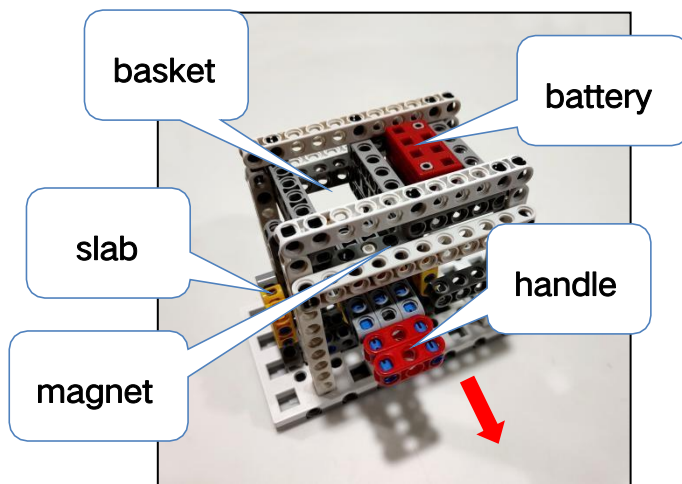

Figure 3-3-1 Initial Position
3.3.1 The high-density battery model at its initial position can be placed at either location 2 or 10 on the arena map. The red arrow shown below in figure 3-3-1 is pointing toward the same direction as the red arrows on the arena map shown in section 2.1. The battery is on the platform. The handle is on the left side of the model, and is shut closed as shown in figure 3-3-1.